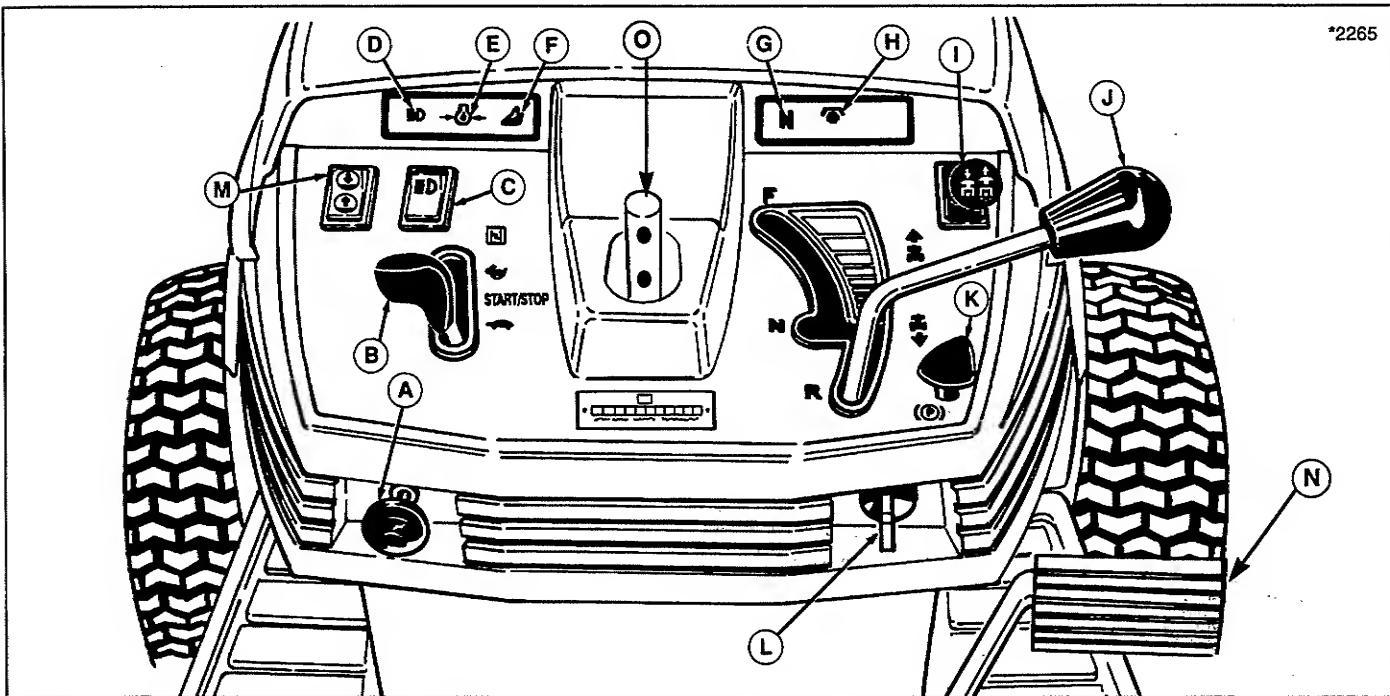
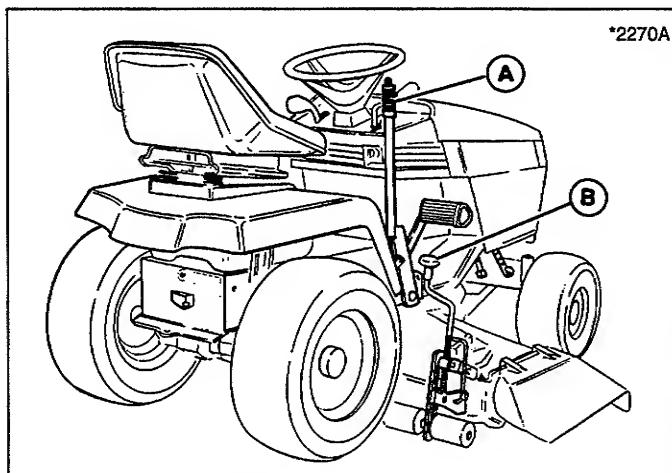
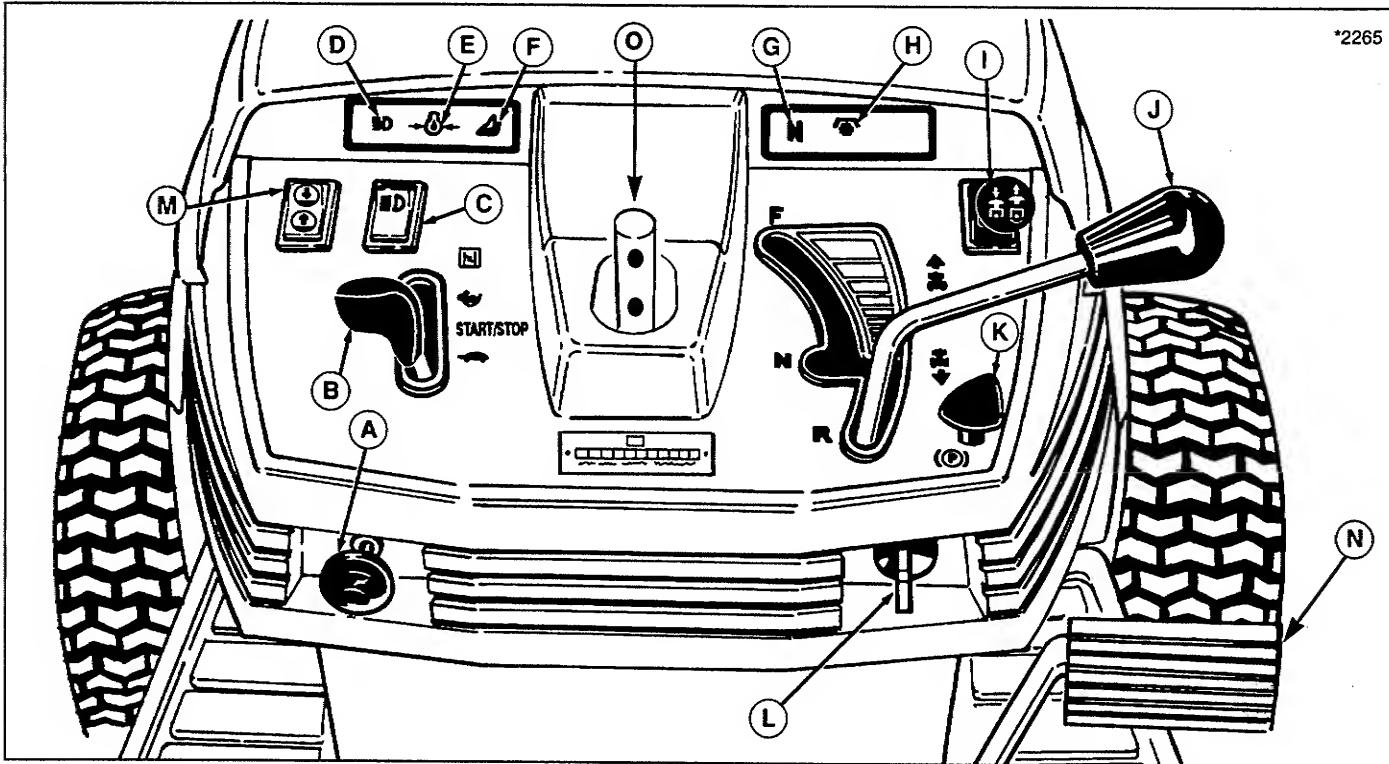

Figure 2. Tractor Controls (Hydro Model Shown)
Figure 10. Mower Operation - Manual Lift
Figure 13. Tractor Controls (Hydro Model Shown)
- A. Neutral Indicator Light (G, figure 2) should go on with transmission lever in neutral gate and should go out when lever is moved to either the forward or reverse gate.
- B. PTO Indicator Light (H, figure 2) should go on and off with operation of PTO switch.
- C. Oil Pressure Indicator Light (E, figure 2) should be on and should go out immediately after engine starts.
- D. Operator Seated Indicator Light (F, figure 2) should go on when operator is present in the seat and should go off as operator rises out of the seat.
2. Place mower in the lowest cutting position using the mower height adjuster (B, figure 10). Place the mower lift lever (M, figure 2 or A, figure 10) in the lowest position, also. Slide mower deck under right side of tractor so that mower hitch is aligned with front tractor hitch.
2. Place mower in the lowest cutting position using the mower height adjuster (B, figure 10).
3. Place the mower lift lever (A, figure 10 or M, figure 13) in the lowest position.
1. When traveling to or from the work site, fully raise the mower using the mower lift lever (A, figure 10 or M, figure 13). At the work site, lower mower using the lift lever.
2. Use the mower height adjuster (B, figure 10) to set the proper mowing height. See Mowing Patterns & Tips section for cutting height recommendations.
Refer to figure 13.
On hydro models, ground speed is infinitely variable according to how far the control lever (J, figure 13) is moved in the forward or reverse position.
On gear models, ground speed is selected by depressing the clutch pedal and moving the control lever (J, figure 13) to the appropriate gear selection.
1. If you are ready to mow, lower the mower from the transport position using mower lift lever (A, figure 11 or M, figure 13) and set the mowing height using the
2. Set the engine speed control lever (B, figure 13) for full speed.
3. Use the PTO switch (I) to engage the PTO.
4. Release the parking brake by depressing brake pedal (N, figure 13) and pushing knob (K) down.
5. On hydro models, move the ground speed control lever (J, figure 13) to the desired direction and speed of travel to set the tractor in motion.
6. Adjust engine speed control lever (B, figure 13) to the desired speed. Between 3/4 and full speed is recommended for mowing.
1. On hydro models, move the ground speed control lever (J, figure 13) into the NEUTRAL position to make a gradual stop. To make a more rapid stop, depress the clutch/brake pedal (N, figure 13).
On gear models, press the clutch pedal (N, figure 13) down to disengage the clutch for a gradual stop. For a more rapid stop, press the brake pedal down to apply the brake while also depressing clutch pedal to disengage the PTO. Move the ground speed control lever to NEUTRAL before releasing the pedals.
2. Engage the parking brake by fully depressing brake pedal and pulling up on parking brake knob (K, figure 13).
3. Use the PTO switch (I, figure 13) to disengage the PTO.
4. Set the engine speed control lever (B, figure 13) to 1/2 throttle setting and allow the engine to idle for 20 seconds. Stopping a hot engine too fast may cause engine damage.
5. Turn key (L, figure 13) to OFF and remove it.
1. With engine off and key removed, use the PTO switch (I, figure 13) to disengage the PTO.
2. Place the mower in the transport position (up) using the mower lift lever (A, figure 10 or M, figure 13).
3. Place the ground speed control lever (J, figure 13) in the neutral position.